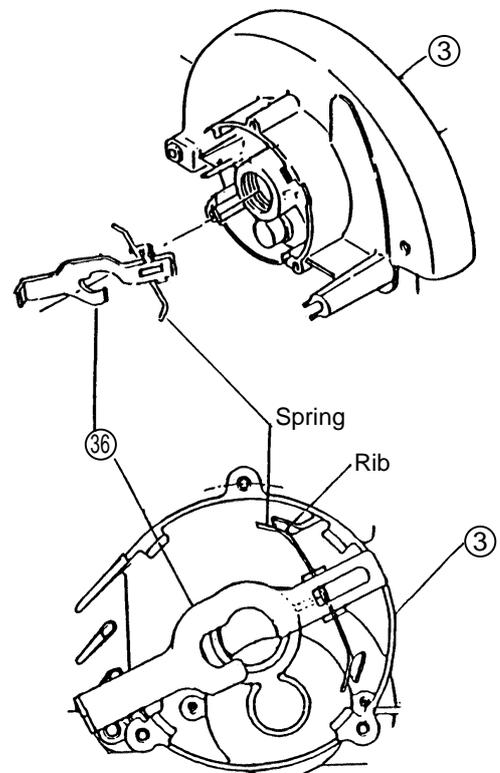

**Fig. 11**
- (4) Separate the Spindle Gear (4) from the Bearing Holder (5):
As illustrated in Fig. 11, support the Bearing Holder (5) with an appropriate tubular jig, and push down on the end of the Spindle to separate the Spindle Gear (4) from the Bearing Holder (5).
- (5) Remove the Armature (35):